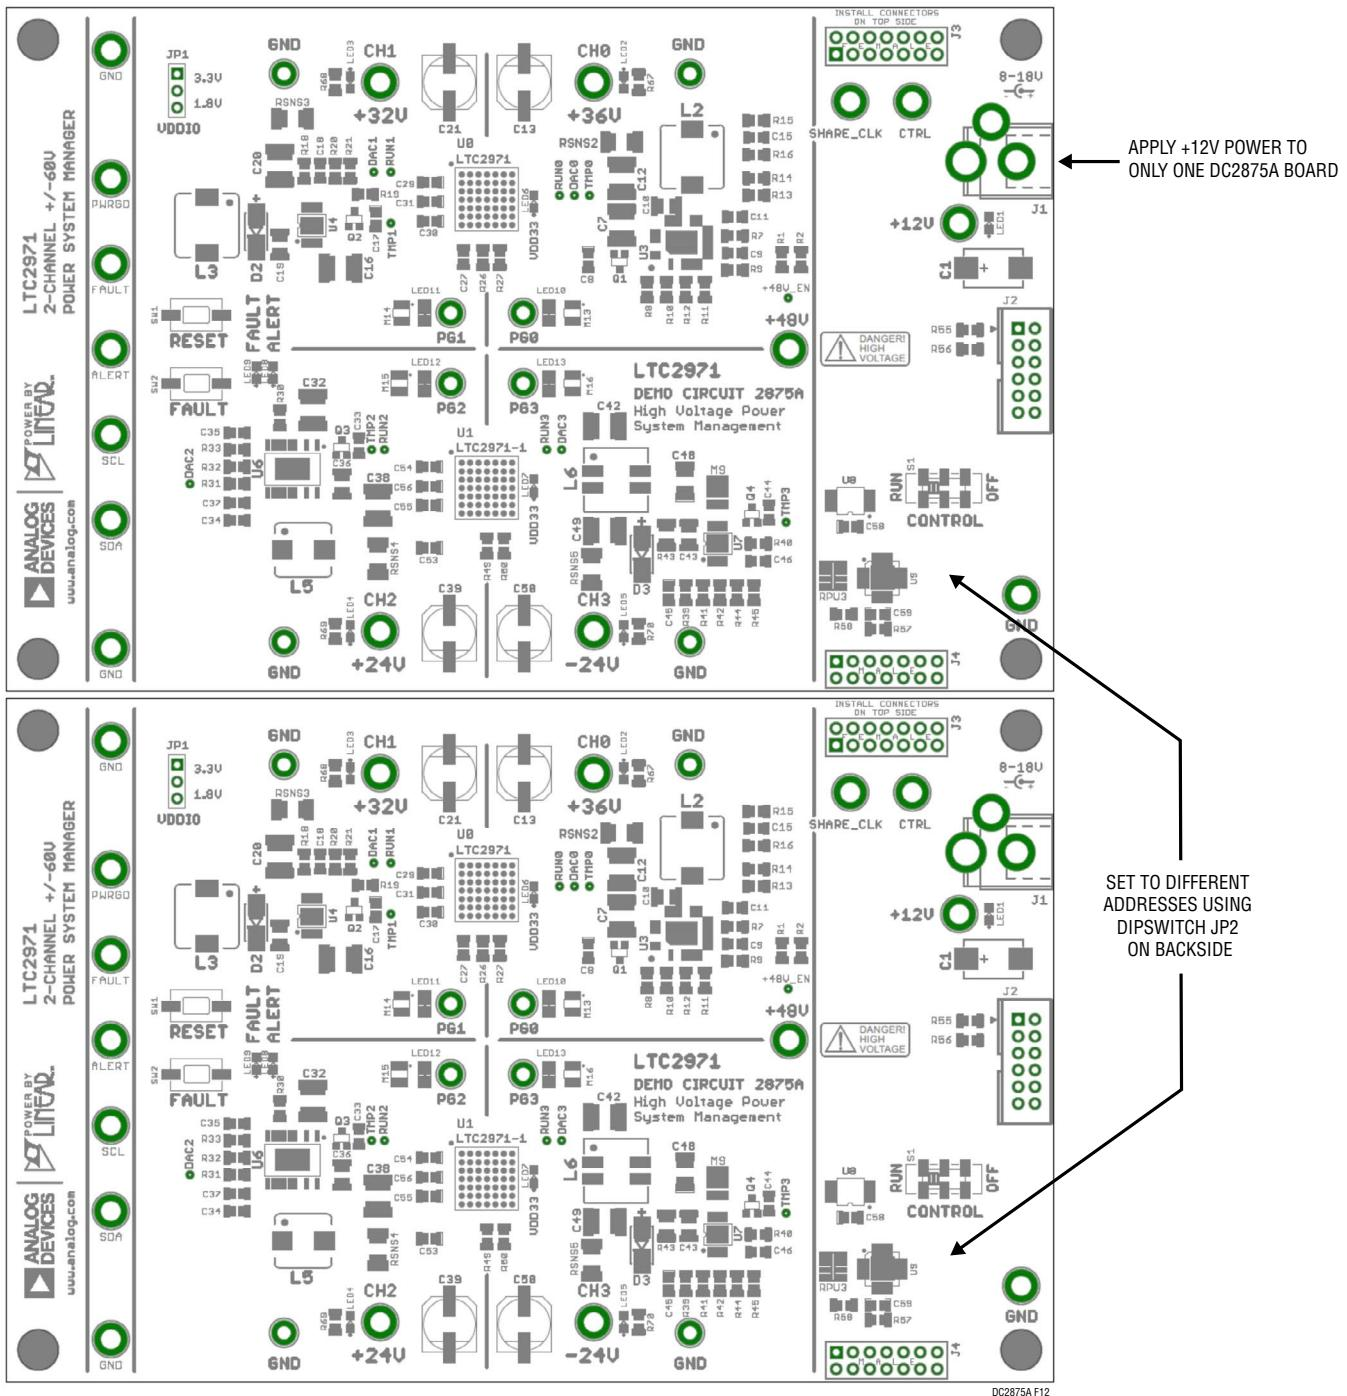

Figure 14. Array of Multiple Board Sets
3. Plug in the  $+12V$   $V_{IN}$  power into one of the boards as shown in Figure 14. Only one  $+12V$  power source is allowed.